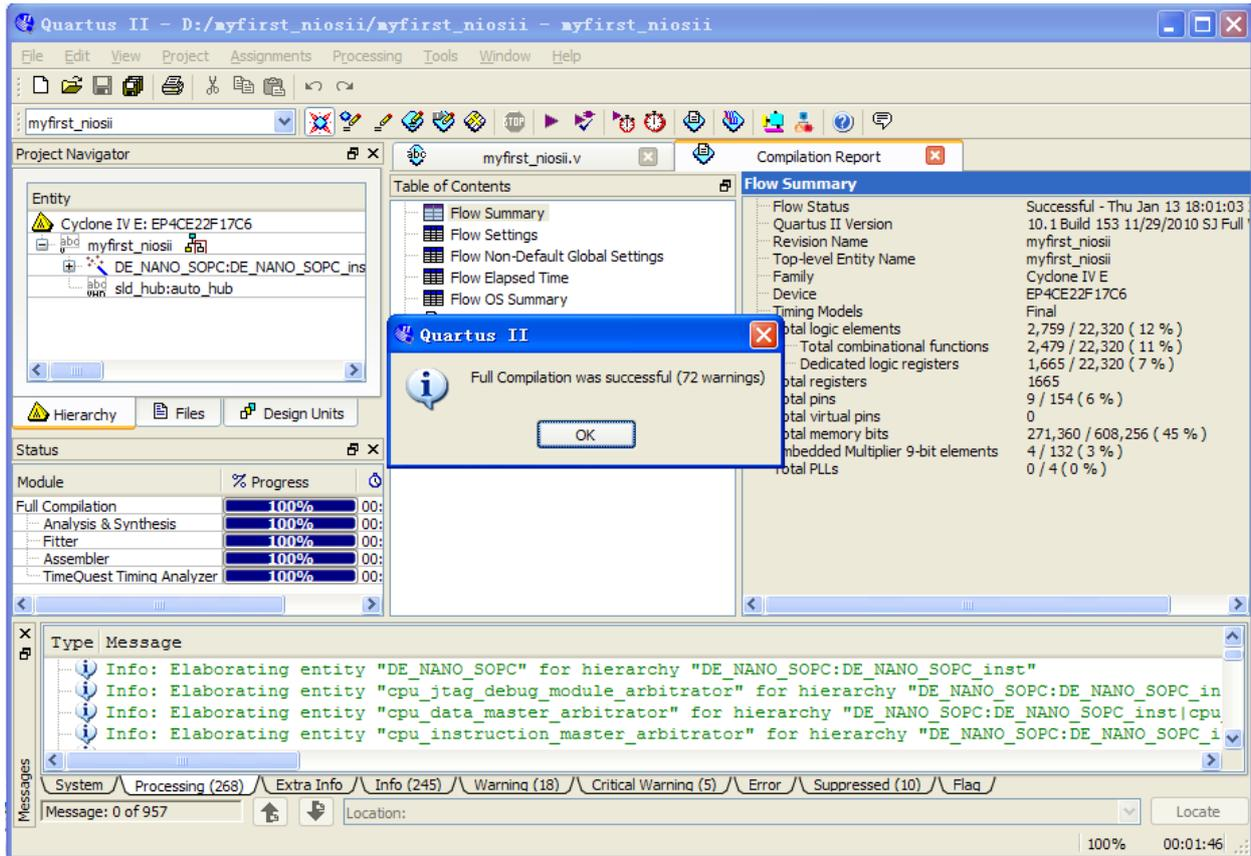

**Figure 7-47 Start Compilation**
36. Compile the project, by selecting **Processing > Start Compilation**, as shown in **Figure 7-47**. **Figure 7-48** shows the compilation process.